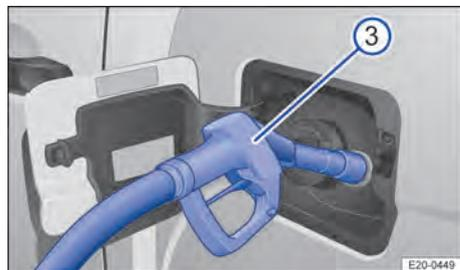

Fig. 154 Refilling AdBlue with a nozzle.
1. To ensure optimum filling, hold the AdBlue® filler nozzle so that the handle is facing down → Fig. 154 ③.